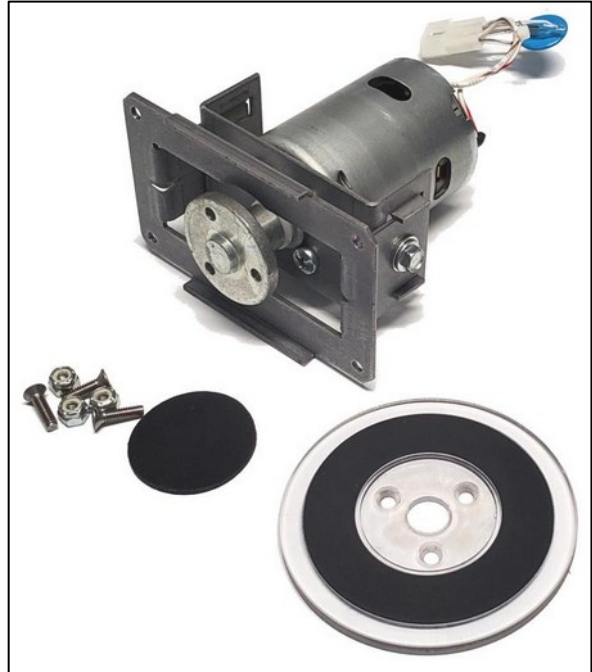

Figure 7
3. Your assembly should now look like what is shown in **Figure 7**.